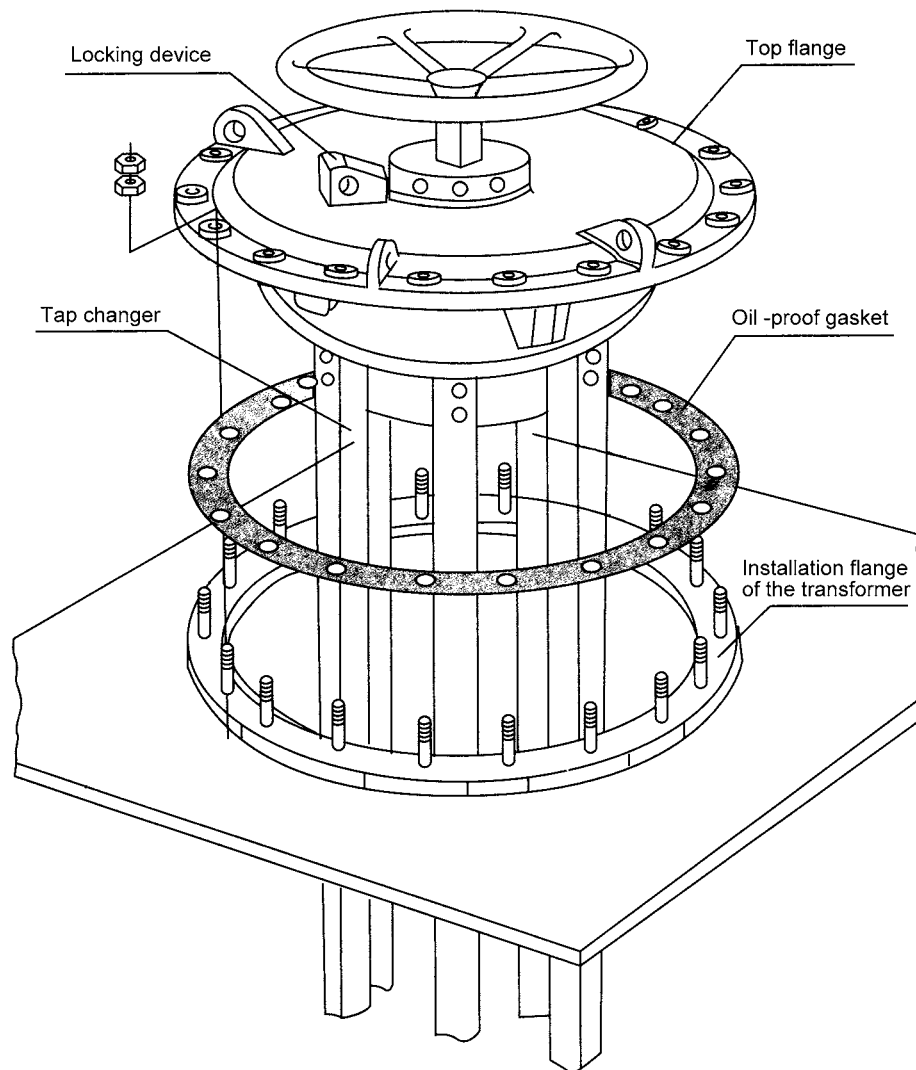

Fig.7 Installation diagram of the tap changer on the tank cover type transformer
8.2.1 Installation of the off-circuit tap changer onto the tank cover type transformer (fig. 7)